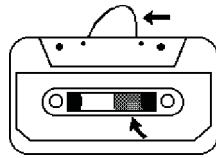
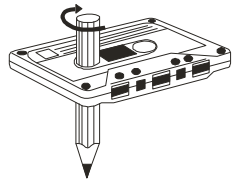

Fig.1
Fig. 2
Check that there are no loose layers of tape visible through the cassette center window (see Fig. 1). Take up any loose layers, using a pencil or hexagonal barrelled ballpoint pen, before inserting the cassette into the machine (see Fig. 2).
- If the cassette feels tight while performing operation shown (see Fig. 2), the tape may be jamming due to ridges formed in the winding of the tape (visible through the center window). These may be removed, in most cases, by fast winding of the cassette from one end to the other and back again.